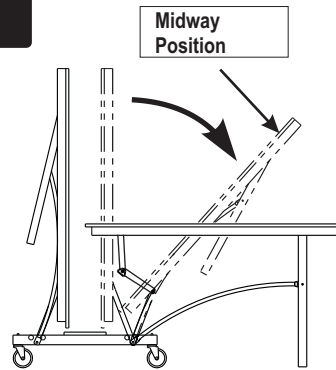

Figure 7A
a. Hold center of top edge. Gently pull outward to midway position. Continue to pull until disengaged from **plastic** clips and legs rest on the floor as shown in Figure 7A, lock hinges as shown in 7B. Do not leave table partially opened at midway position